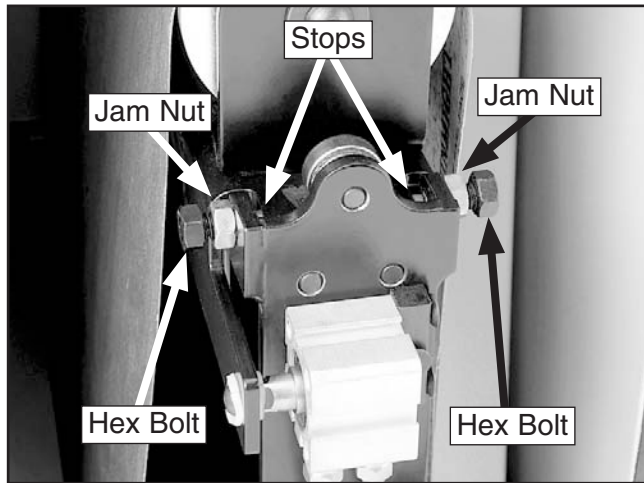

Figure 26. Sanding belt oscillation stops.
The rate of sanding belt oscillation can be changed by adjusting the oscillation stops shown in **Figure 26**.
2. Open the sanding belt access door and identify the oscillation stops shown in **Figure 26**.